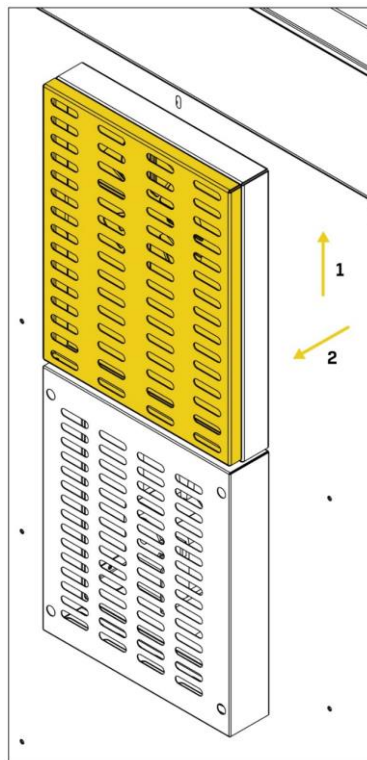

Fig. 78 Air filter change
2. Remove the filter housing by pulling it up (fig. 78, step 1) and towards you (fig. 78, step 2).